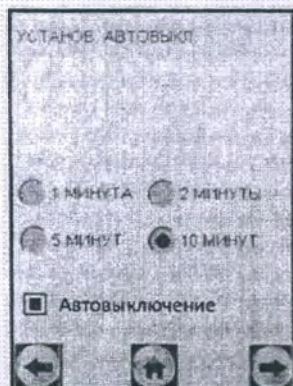

Figure 8 – Automatic shutdown settings
7). window appears on the touch screen . **AUTO SHUT OFF**”(Figure 8).